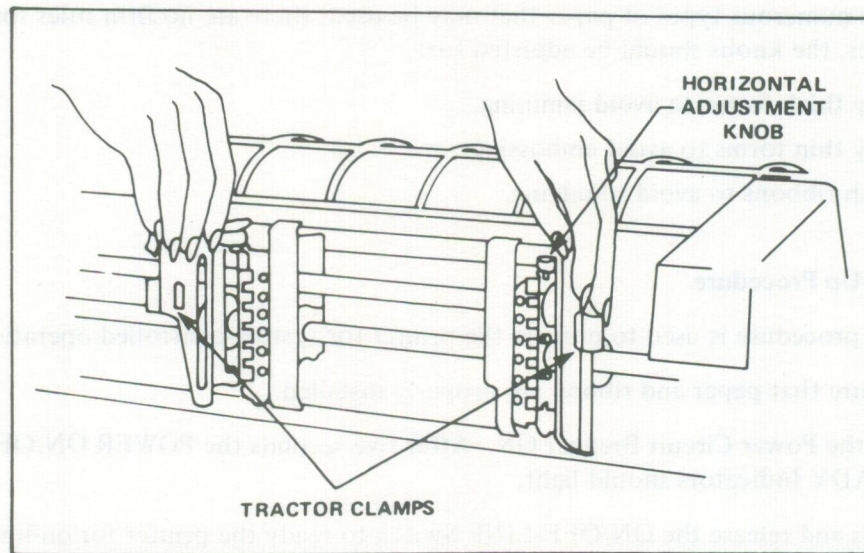

Figure 8-12. Tractor Pressure Plates
3. Open the tractor spring-loaded pressure plates (Figure 8-12).